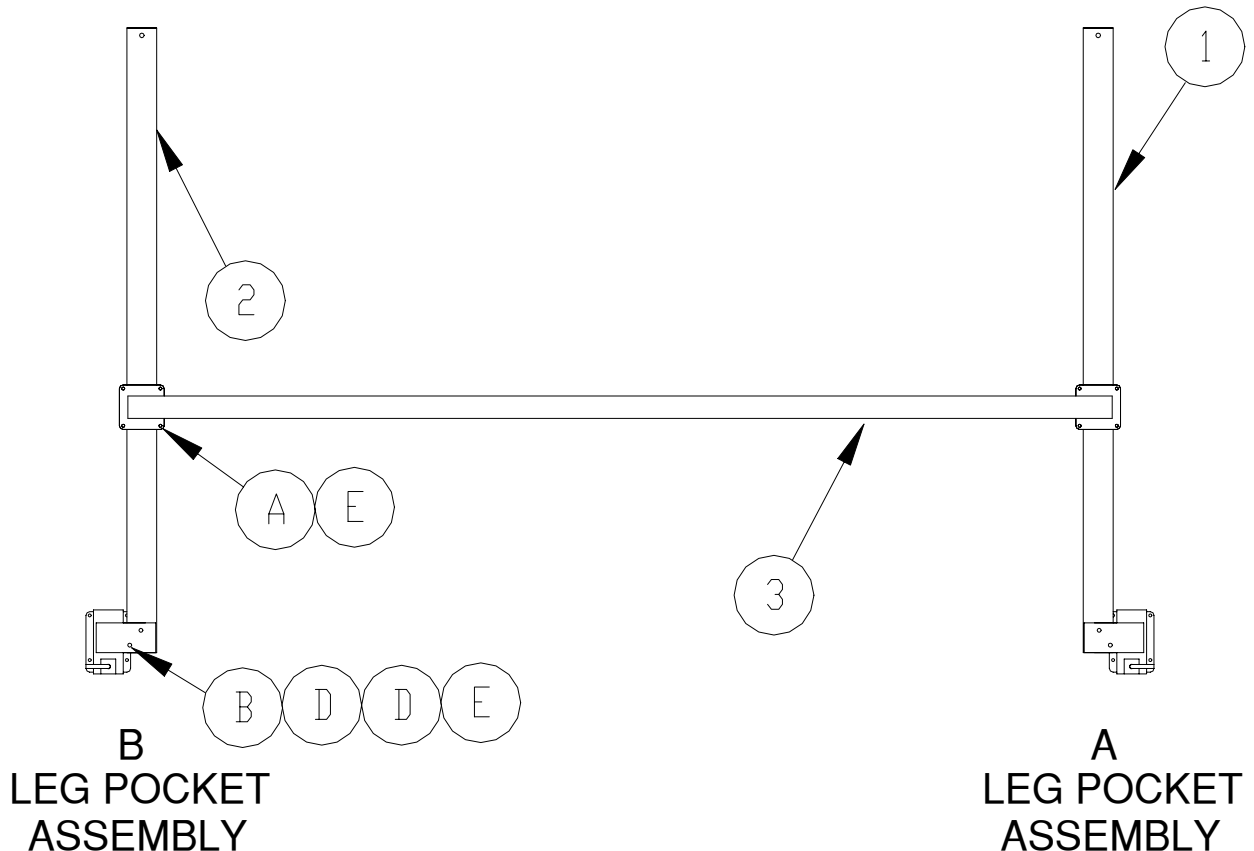

Figure 1
3. Mount the Canopy Support Post (A) **#1** into the (A) Leg Pocket Assembly as shown in Figure 1 using bolts **B**, flat washer **D** next to bolt heads, flat washer **D** next to locknuts, and locknuts **E**. Do not tighten any hardware until all components on one side of the lift are completely assembled.
4. Mount the Canopy Support Post (B) **#2** into the (B) Leg Pocket Assembly as shown in Figure 1 using bolt **B**, flat washer **D** next to bolt heads, flat washer **D** next to locknuts, and locknuts **E**.
5. Bolt the Canopy Support Horizontal **#3** to both Canopy Support Posts **#1** and **#2** as shown in Figure 1 using bolts **A** and locknuts **E**. Tighten all hardware.